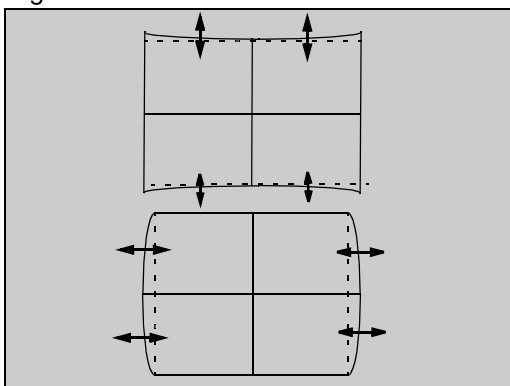

Figure 40. **H & V PIN Adjustment**
10. Adjust V_PIN by pressing CH up-down (See Figure 40).
30. Adjust horizontally and vertically (See Figure 40)